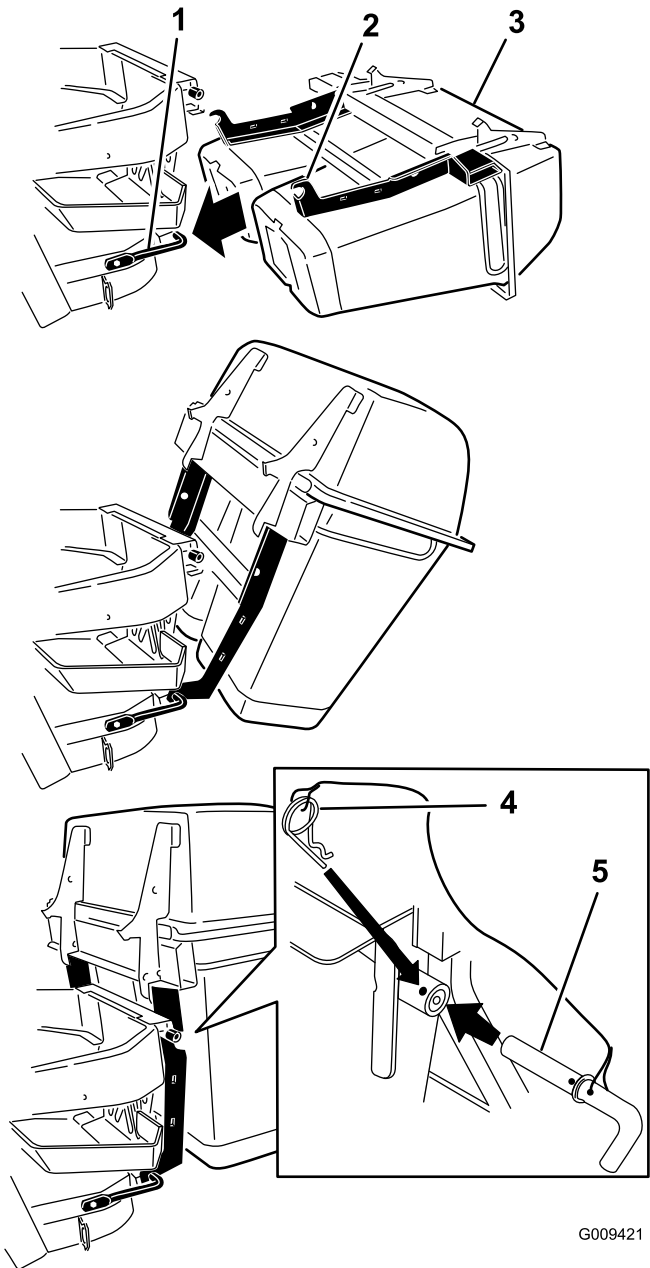

Figure 6
2. Slide hooks onto the lower mounting bracket (Figure 6).
3. Rotate the hood assembly up on the lower bagger mounting bracket (Figure 6).
4. Align the hole in the bagger with the upper mounting bracket (Figure 6).
5. Install the pin and secure it with the hairpin cotter on both sides (Figure 6).